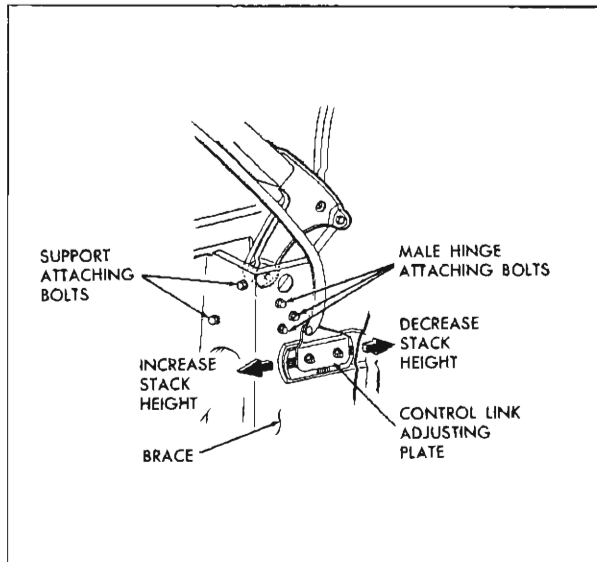

Fig. 110—Adjustment of Control Link Adjusting Plate
- c. Loosen two bolts securing control link adjusting plate sufficiently to permit adjustment of plate (fig. 110).
- b. Loosen male hinge assembly bolts (fig. 110).
- b. Loosen male hinge assembly attaching bolts (fig. 110).